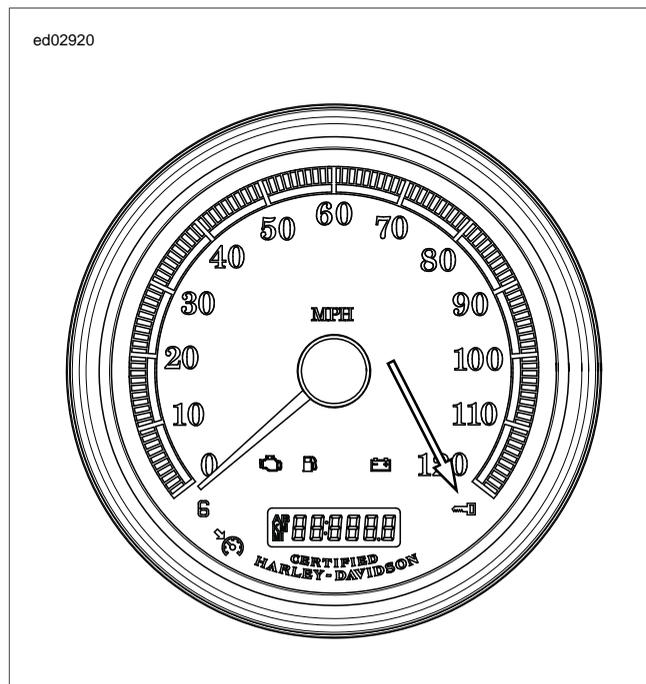

Figure 3-9. Security Lamp (Key Icon)
- See Figure 3-9. When the Ignition Switch is turned to ON, the security lamp will illuminate for approximately four seconds and then turn off.